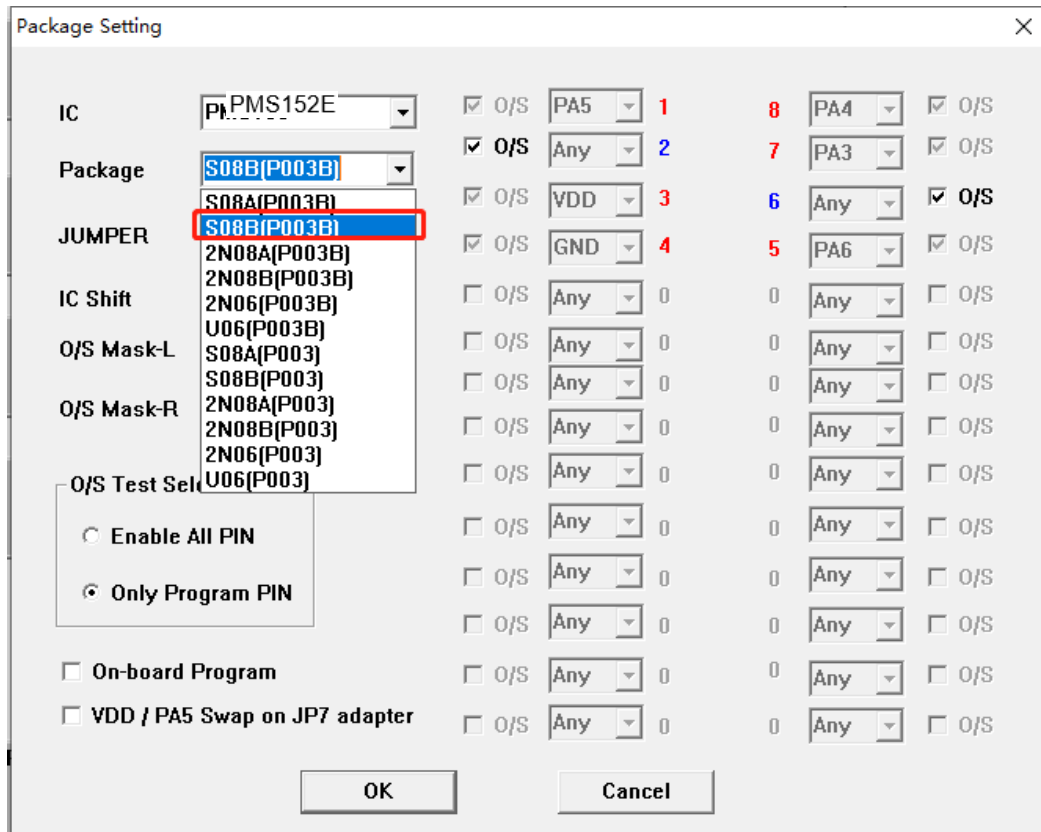

Fig. 28: PMS152E-S08B package setting when using P003B
- For 5S-P-003B to write PMS152E-S08A, just use jumper2 and it needs downward four spaces on the Textool. Other packages need to convert the file and use jumper7. Taking the writing of PMS152E-S08B as an example, other packages only need to change the chip package and jumper7 connection in the "package setting" interface. The package settings are shown in Figure 28: